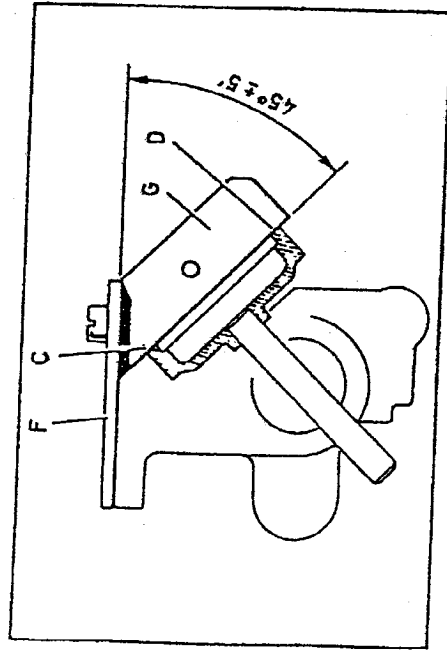

Fig. 6
Extract needle plate and insert plate F of the gauge in its place (fig. 6);
- correct the hook inclination until obtaining the condition shown in fig. 6;